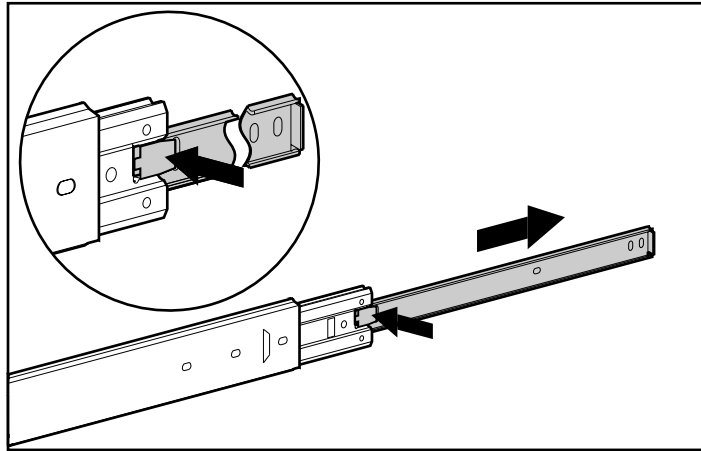

Figure 3-4. Removing the component rail from the bracket rail
2. Extend the component rail from the bracket slide rail until the component rail release latch clicks. Holding down the latch, slip this piece out of each bracket rail, as shown in figure 3-4.